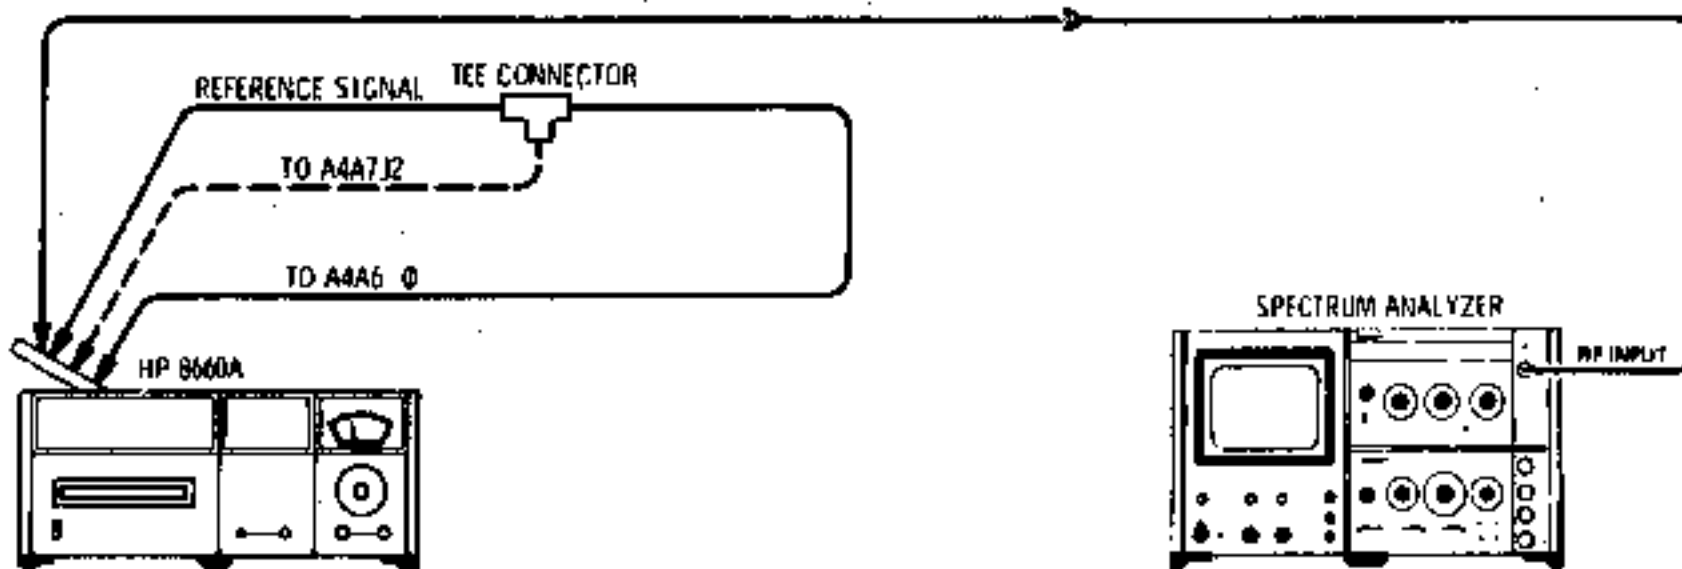

Figure 7-23. 10 MHz Trap Adjustment Test Setup
5. 10 MHz Trap Adjustment. (See Figure 7-23.)